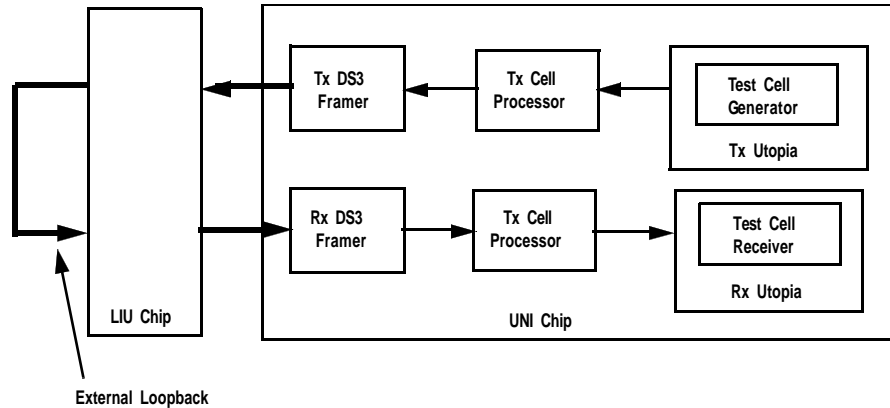

Figure 13. Illustration of Line Side Test, while the UNI is configured to operate in the ‘External Loopback’ Mode.
- External Loopback (see Figure 13)